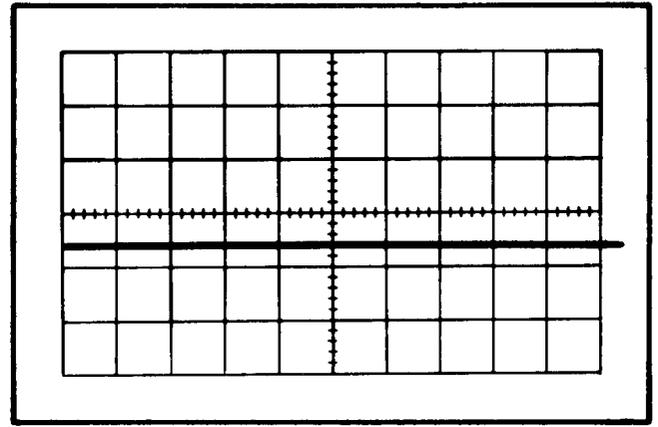

Fig. 5-9. Typical CRT display when checking attenuator isolation ratio and amplifier crosstalk ratio.
e. CHECK-CRT display for 0.1-division deflection, or less (attenuator isolation ratio 10,000:1 or better; see Fig. 5-9).
j. CHECK-CRT display for a 0.1-division deflection or less (attenuator isolation ratio 10,000:1 or better; see Fig. 5-9).